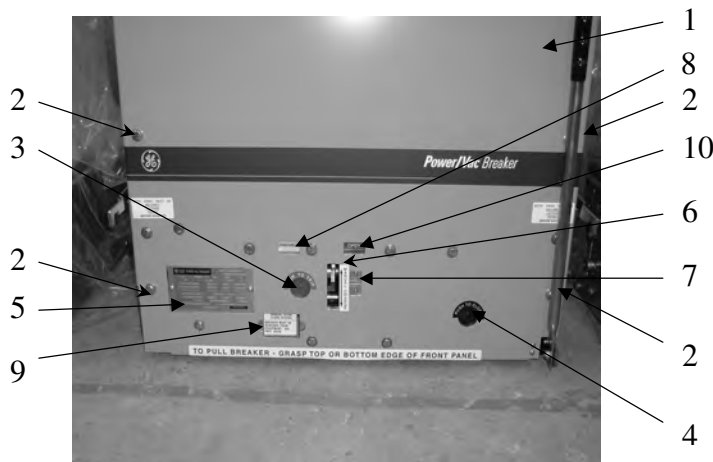
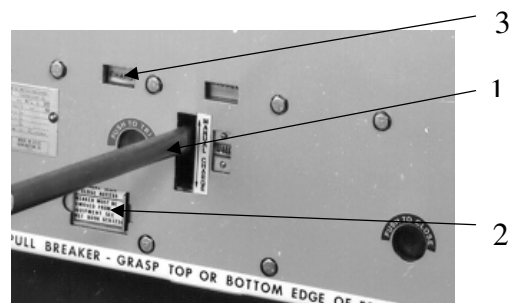

Figure 1 Front view of PowerVac breaker with front cover
Figure 4 Manual charging
The circuit breaker has been shipped in the "CLOSED" position. After removing packing material, open the breaker by pushing in firmly on the manual trip button (item 3, Figure 1), while keeping hands away from moving parts, and verify that the operation counter advances one count.
Manually charge the breaker closing spring using the charging handle provided (item 1, Figure 4). The closing spring is charged by a ratcheting mechanism that advances by one ratchet tooth at a time. When the spring is fully charged and the spring load is held by the closing latch, the spring indicator (item 3, Figure 1) will change from "DISCHGD" to "CHARGED", and a positive snap will be heard as the spring travels over center.
**CAUTION:** AFTER THE SPRING IS COMPLETELY CHARGED, AS INDICATED IN FIGURE 4, FURTHER FORCING CHARGING HANDLE MAY CAUSE DAMAGE TO THE CLOSING LATCH AND ITS ASSOCIATED PARTS.